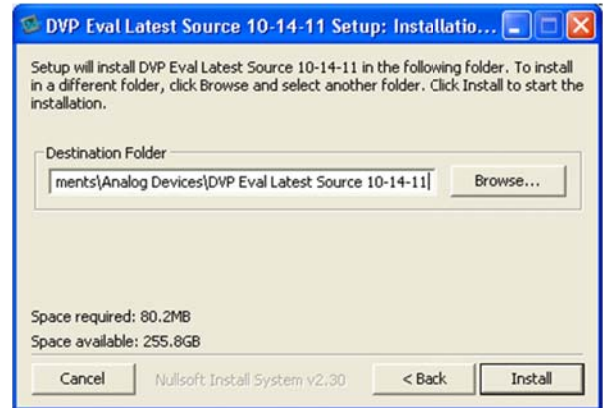

Figure 4. Installation Destination for DVP Eval Software
Specific components on the evaluation board are outlined in Table 2 and highlighted in Figure 4. Additional details on components are outlined in Table 3.
4. Select an installation destination folder and click the **Install** button (see Figure 4). It is recommended to use the default destination folder. Selecting a different destination folder can cause compatibility issues with some versions of Windows® OS.